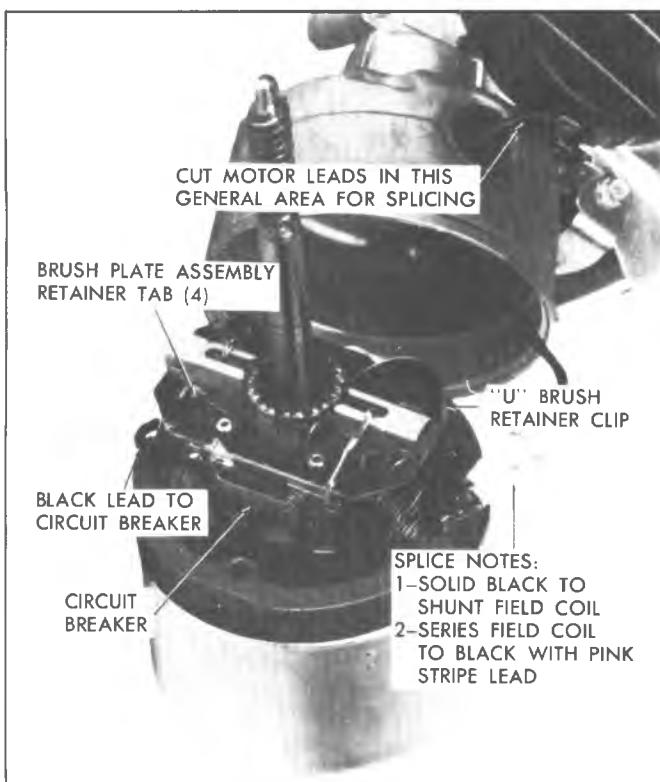
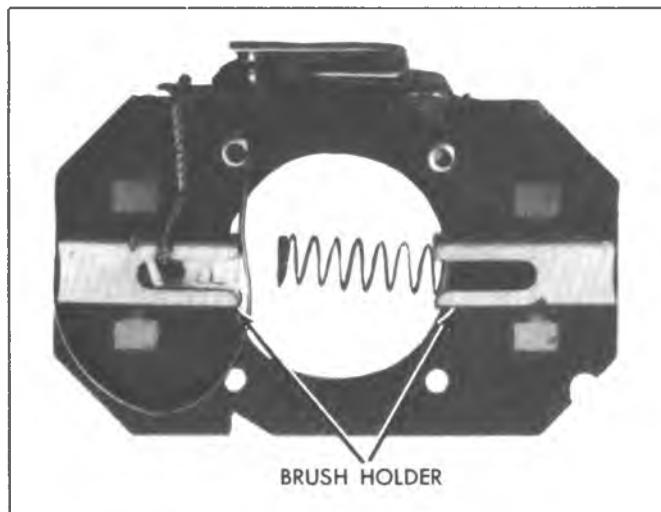

Fig. 30-Circuit Breaker
Fig. 33.-Brush Plate Assembly
4. Unsolder the black cotton-covered lead from circuit breaker (fig. 30).
5. Straighten out the four tabs that secure the brush plate to the field coil retainers (fig. 30).
6. Install "U" shaped brush retainer clip over brush holder that has brush lead attached to circuit breaker (fig. 30).
stripe leads in a location convenient for splicing—preferably near the wiper terminal board. Refer to Figure 30 for splicing location.
5. Position the partially assembled brush plate (fig. 33) over the armature shaft far enough to allow assembly of the remaining brush in its brush holder, then position the brush plate on the mounting tabs in the position shown in Figure 30.
**NOTE:** Circuit breaker should be opposite field cross over splice connections (Figure 30).
7. Remove brush retainer clips and resolder black cotton covered lead to circuit breaker (fig. 30).